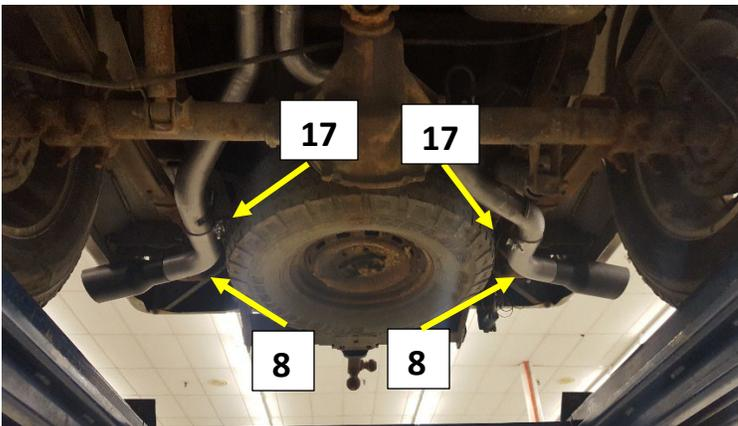

Figure.13
1. Install the 26972S side exit pipes **(8)** on to the left and right tail pipes. Install a 3" band clamp **(17)** on to the pipes with the bolt at the top and the nut facing the inside. Tighten the clamp to allow for adjustment. **Fig.13**
2. Install the supplied tip and adjust to personal preference before tightening the clamps on the exit pipe and tip. **Fig.13**